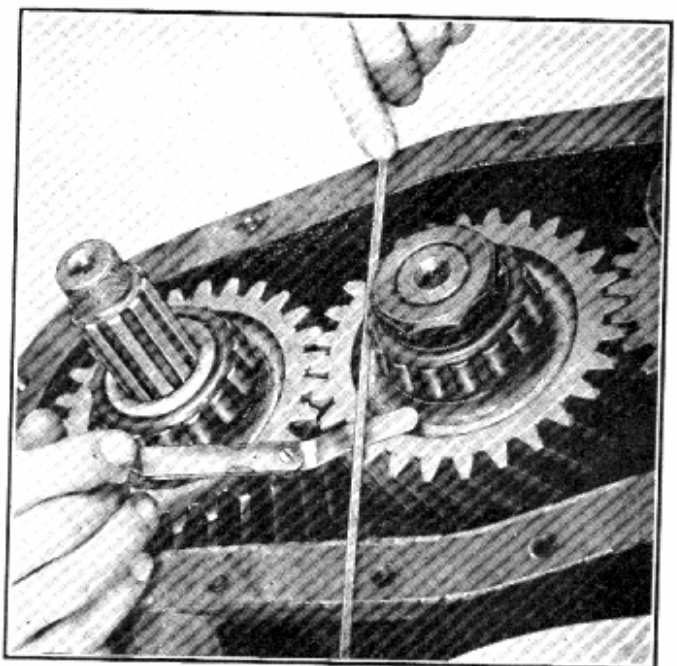

Fig. 33—Checking Clearance between Cover and Gears
6. Lay a straight edge across the open side of the case to check for clearance between each gear and the side of the straight edge as illustrated in Fig. 33. As long as there is sufficient clearance between the gears and the straight edge to prevent the gears from rubbing the cover in actual service, the gear alignment with respect to the case is correct.